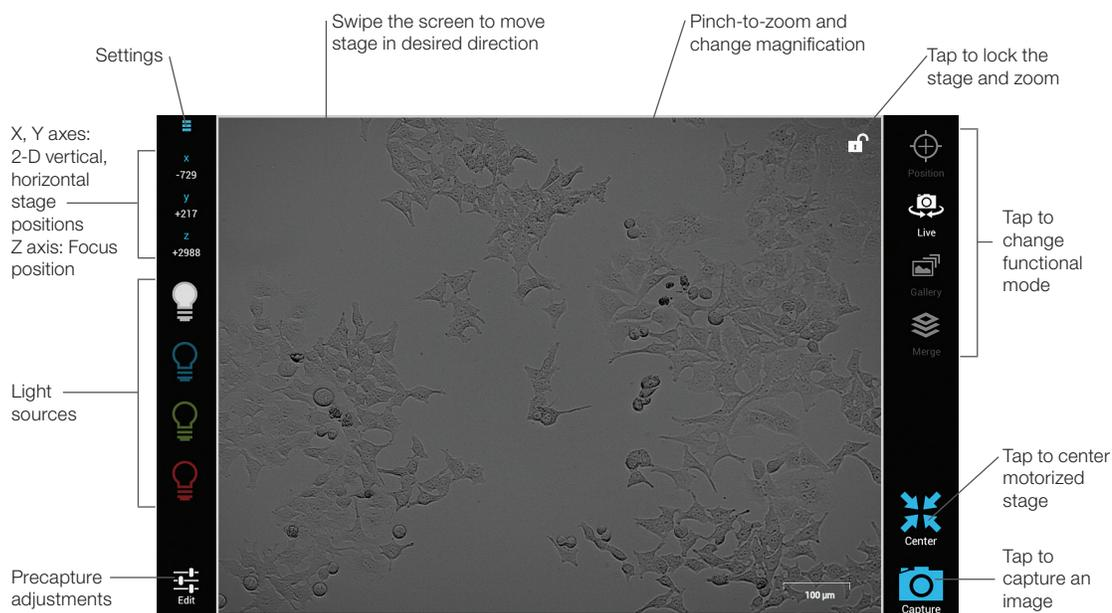

Fig. 3. User controls available in Live mode.
- **Live** — view samples using brightfield (Figure 3) or any of the three fluorescent channels; use this mode for image acquisition
The ZOE Cell Imager's motorized stage, with up to 6 mm of travel, enables rapid visualization of a large sample area. Direction and speed of the stage movement are controlled through the touch screen, and display magnification can be instantly increased using the pinch-to-zoom gesture. X and Y coordinates (Figure 3) are updated as the stage moves. Use the **Center** icon (Figure 3) to return the stage to the Home position (X,Y: 0,0). Tap the Stage/Zoom lock to lock the sample position and magnification during acquisition of images for multicolor merge. When done, tap the lock again to unlock.
A control panel located on the left side of the screen contains controls for switching on and off light sources for the individual imaging channels (Figure 3). For improved image contrast, a ring of green LEDs is the light source in the brightfield channel. ZOE uses a monochrome camera and the resulting brightfield images are black and white.
**Focus** position indicator on the left side of the touch screen shows the Z axis position number. The number is updated during focusing (Figure 3). Knowing the approximate Z number for the tissue culture vessels (Table 2) you use can speed up focusing.
A control panel located on the left side of the screen (Figure 3) contains controls for switching on and off light sources for the individual imaging channels. The viewing area shows the sample illuminated with the selected light source; the displayed sample is pseudo-colored in the appropriate emission color (Figure 8). Tap the illumination control (Figure 6) to turn the LED light source on, tap it again to turn it off.
To capture the image of the sample displayed in the viewing area, tap the **Capture** (Figure 3) icon. The captured image will remain displayed on the screen (action mode will change from **Live** to **Gallery**) and the image file will automatically be saved to the internal memory. Captured images can be edited or used in multicolor image merges. For more details go to **Capturing Images for Multicolor Merge**.